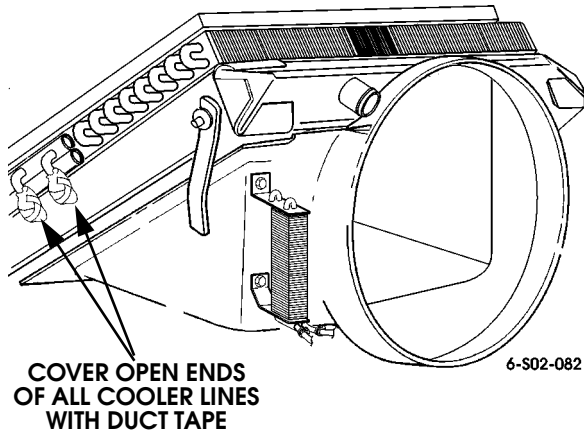

Figure 2-62: Covering Open Ends of Oil Cooler Lines
10. Disconnect oil lines at transmission and power steering coolers. Cap lines to prevent dirt entry (Figure 2-62).